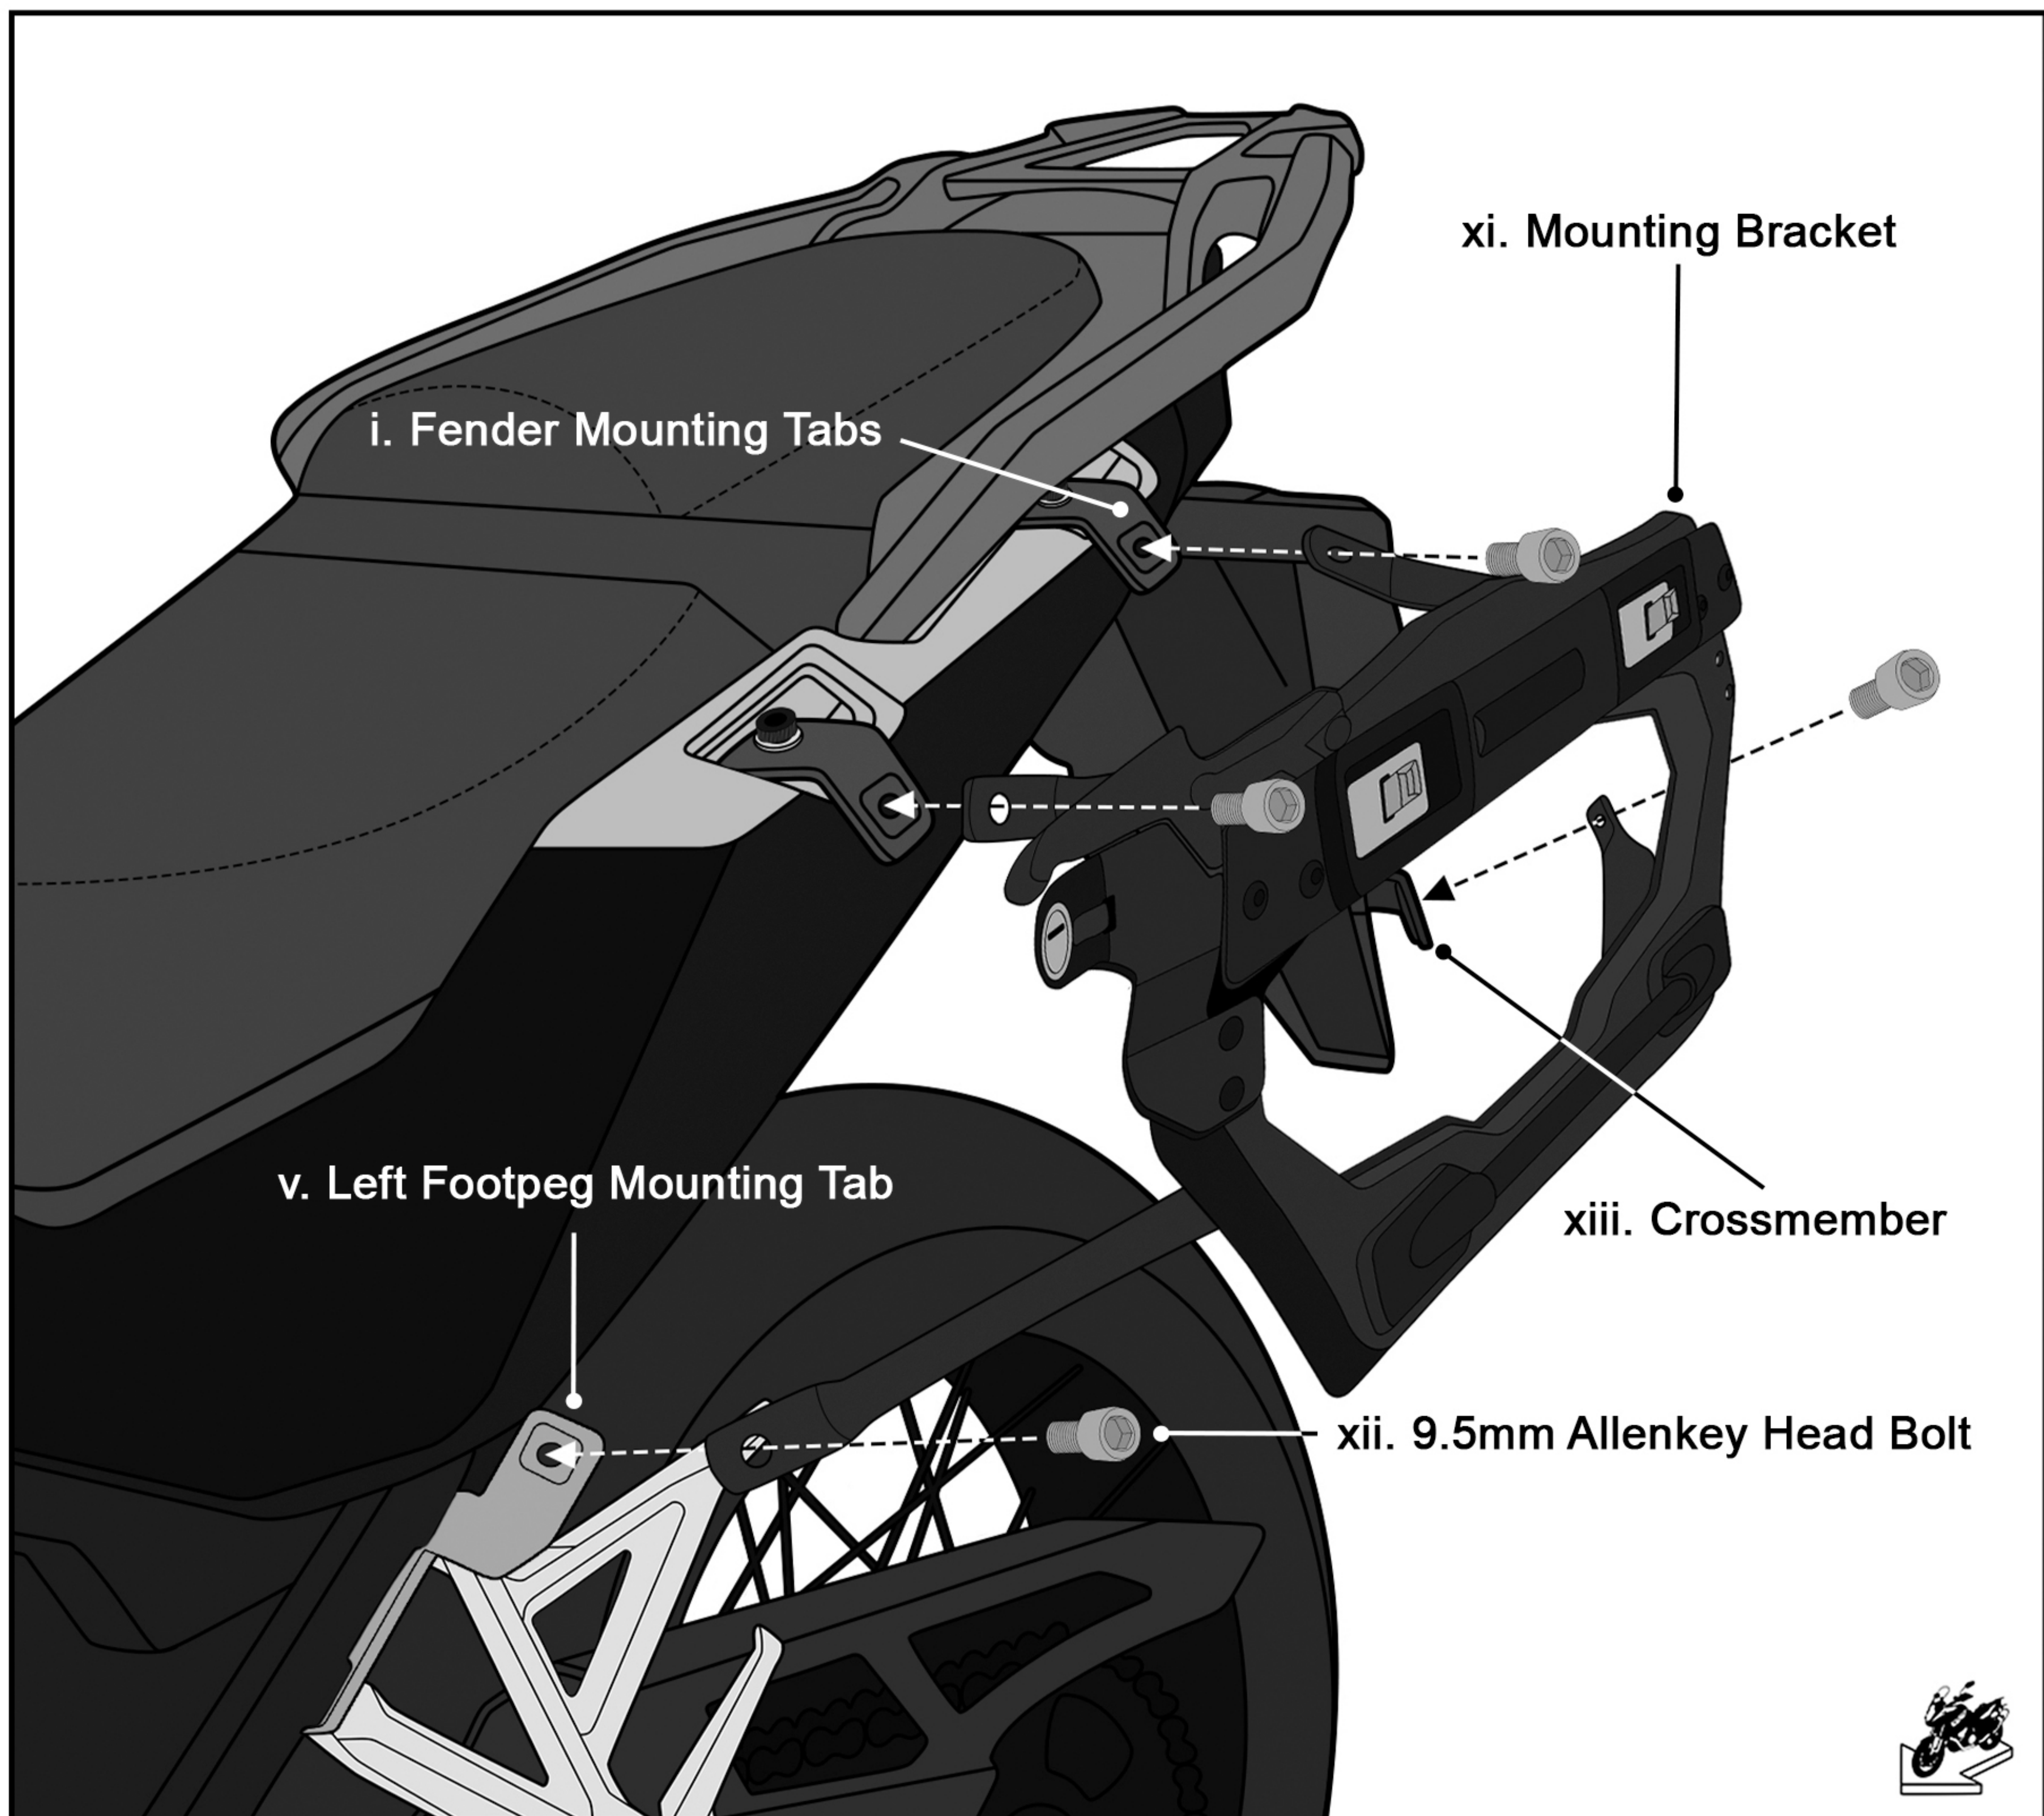

Fig 5. Attaching the mounting bracket to the mounting tabs
Now attach the mounting brackets (XI) using the 9.5mm Allenkey Head Bolts (XII) to the Fender Mounting Tabs (I) and Footpeg Mounting Tabs (VI and VIII) and the Crossmember (XIII). See Fig 5.